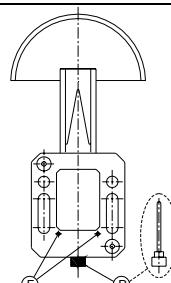

图 1 – Bild 1
<p>Figure 1</p>	<p>A= driving toothed wheel D_{pA}= diametral pitch of the toothed wheel A in mm B= driver toothed wheel p= inside length (pitch) in mm n= number of pitches Z_A= number of the teeth of the wheel A Z_B= number of the teeth of the wheel B C_m= motor torque in Nm M_t= torque to be transmitted in Nm T= pull on chain on the tensed branch in N I= distances between centres in mm</p>
- 1) 从主体底部将预加负荷用柱销□拔出 (图 1);
- 1) Take out the preloading pin □ from the bottom of the body (Bild 1);